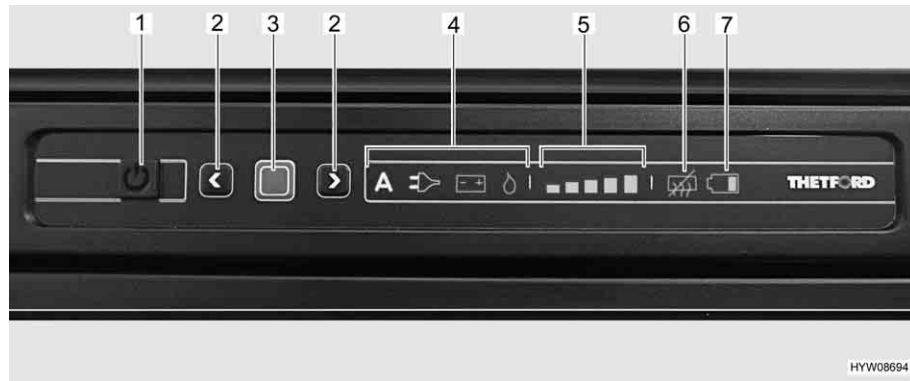

Fig. 179 Operating controls for the refrigerator
When it is switched on, the refrigerator automatically selects the thermostat setting selected last. This position can be adjusted manually by using the arrow keys (Fig. 179,2). The illuminated bars of the cooling level indicator (Fig. 179,5) show the selected thermostat position.
The refrigerating temperature for the three types of energy is set with the arrow keys (Fig. 179,2). It takes a few hours till the refrigerator reaches the set operating temperature. When changing over the operating mode the thermostat setting will be maintained. The refrigerating temperature is retained regardless of the type of energy being used.
- Press and hold the On/Off button (Fig. 179,1) for 1 second. Button lights up green. The indicators stay on for 10 seconds and are then dimmed to save energy.
- Press confirmation button (Fig. 179,3). The current setting of the operating is displayed.
- Press and hold the confirmation button (Fig. 179,3) for about 2 seconds. The operating mode symbols (Fig. 179,4) flash.
- Use the arrow keys (Fig. 179,2) to select the desired operating mode.
- Press and hold the confirmation button (Fig. 179,3) for about 2 seconds. The operating mode symbols flash.
- Press confirmation button again. The display of cooling levels (Fig. 179,5) flashes.
- Use the arrow keys (Fig. 179,2) to set the desired cooling power.
- Press and hold the On/Off button (Fig. 179,1) for about 2 seconds. All lights go out.
- Press both arrow keys (Fig. 179,2) simultaneously for approximately 2 seconds. The "anti-condensation off" symbol (Fig. 179,6) lights up.
- Press both arrow keys (Fig. 179,2) simultaneously for approximately 2 seconds. The "anti-condensation off" symbol (Fig. 179,6) goes out.